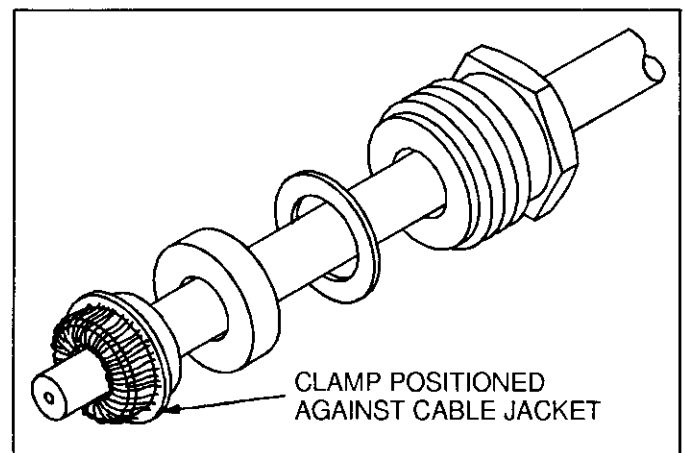

Fig. 3
2. Slide clamp over cable braid and position it against the cable jacket. After clamp is properly positioned, comb out the braid. See Figure 3.